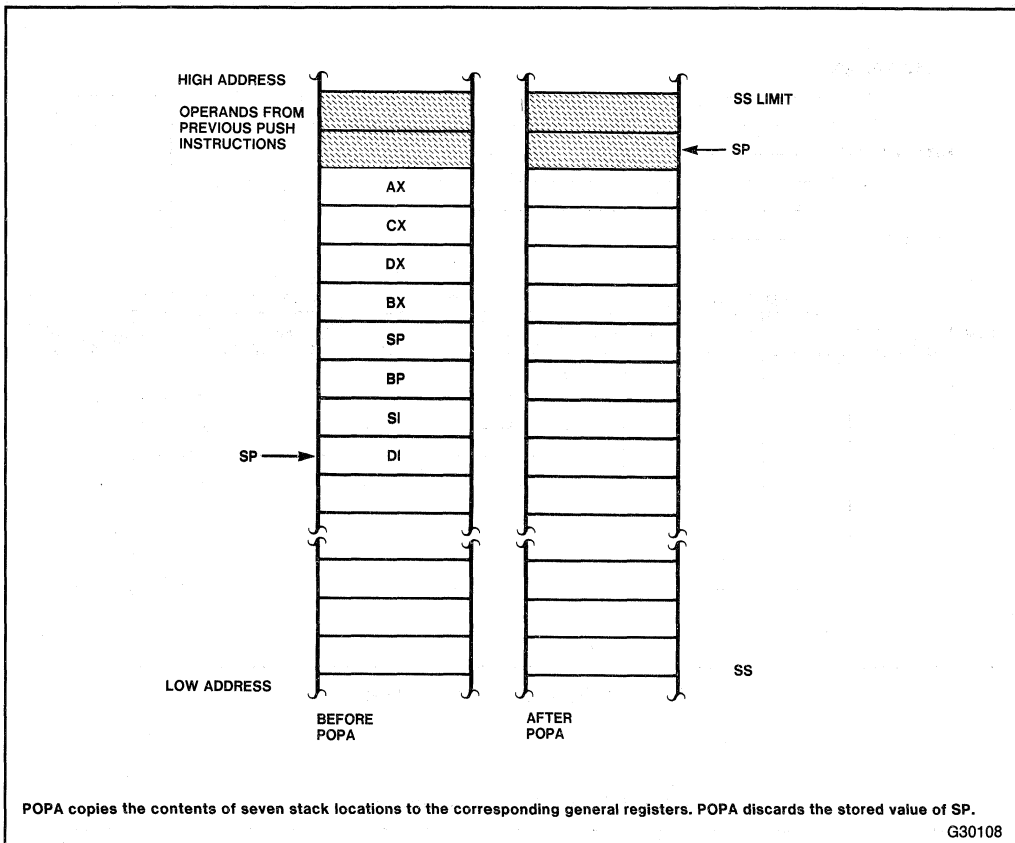

Figure 3-4. POPA
*POPA (Pop All Registers)* restores the registers saved on the stack by PUSH, except that it ignores the value of SP. See figure 3-4.